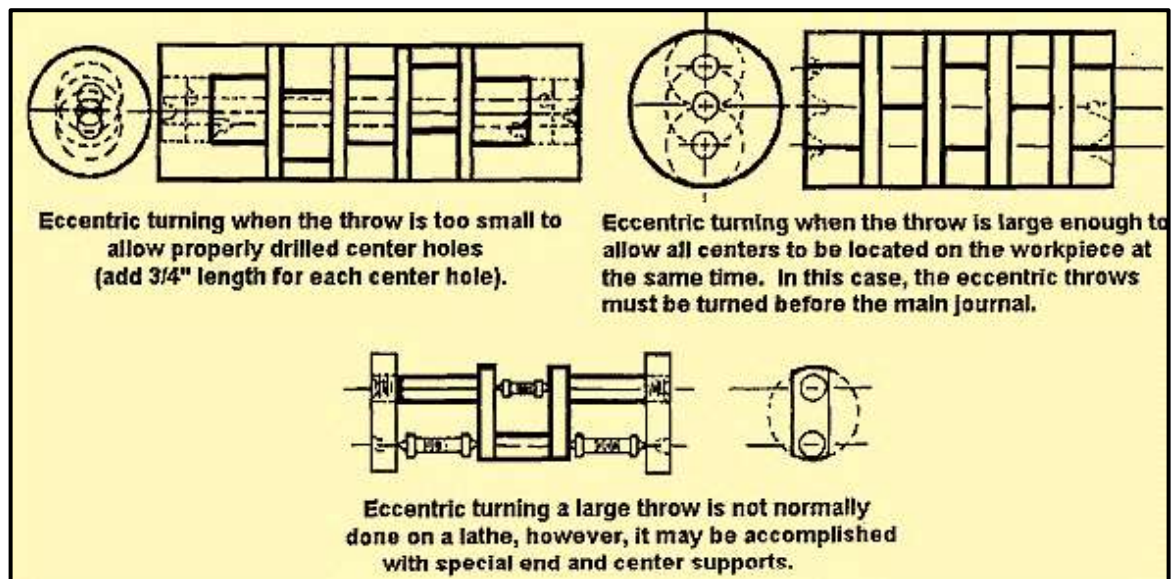

Figure 7-79. Eccentric turning.
**Turning an Eccentric with Center Holes:** Before an eccentric workpiece can be machined, it is necessary to center-drill both ends of the workpiece, including the offset centers. First determine the stock required by adding the throws plus 1/8 inch for machining. When turning an eccentric that has the different centers placed too close together, cut the stock 3/4 inch oversized and just face both ends to clean up the saw cuts. Lay out and center-drill the normal center axis and turn down those diameters on the center axis with the work mounted between centers. For eccentric work that has a limited distance between each center, this method is safer than trying to use a very shallow center-drilled hole to hold the work between centers (Figure 7-79).